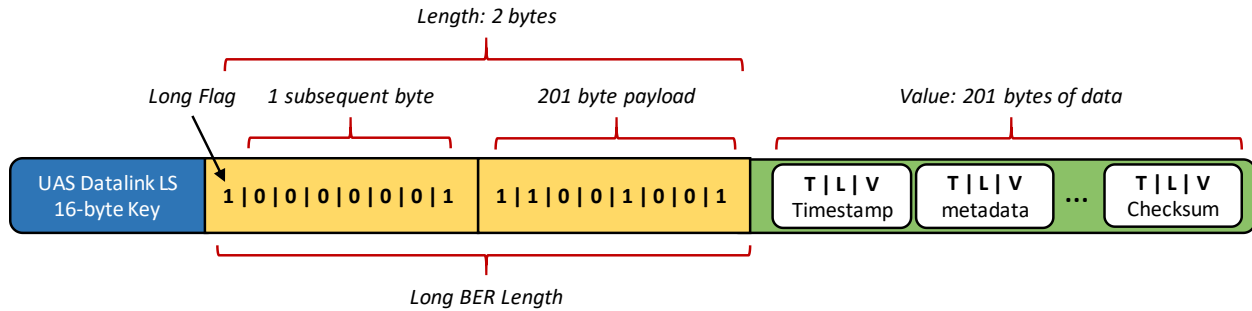

Figure 6-3: Example Long Form Length Encoding
For UAS Datalink LS packets and data elements longer than 127 bytes, the length field is encoded using BER long form. The most significant bit in the first byte of the Length field signals long form when set to one (1). The long form encodes the length field using multiple bytes. The remaining 7 bits of the first byte indicate the number of subsequent bytes that represent the Length. The bytes that follow the leading byte are the encoding of an unsigned binary integer equal to the number of bytes in the packet. An example UAS Datalink LS packet using a long form encoded length is shown in Figure 6-3: